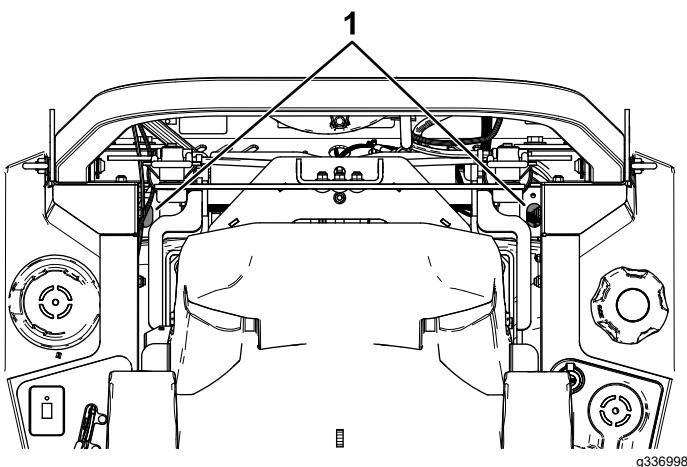

Figure 84
- For ZT 4400 Hydros, use an extension and 7/16-inch socket, access the vent plug from the top of the machine through the holes near the roll-bar mounts (Figure 84).